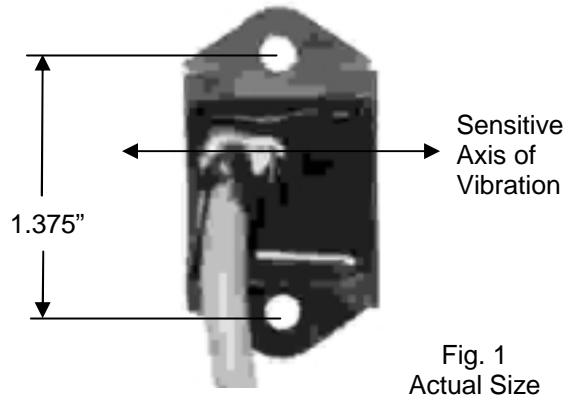
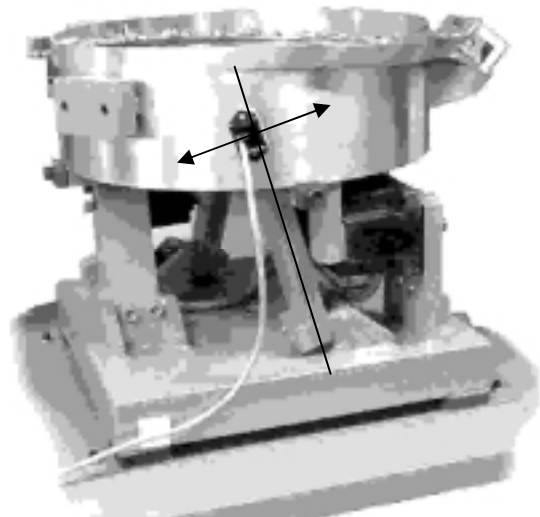

Fig. 1
Fig. 2 The arrow shows the direction of vibration which is at a right angle to the spring pack.
Figure 1 represents
feeder. The double-ended arrow in figure 1 shows the sensor's sensitive axis. Align the sensitive axis of the sensor in the same direction as the vibration (see figure 2). The sensor must be oriented correctly for proper operation.
- 6) Remove the vibration sensor from its protective packaging. Remove the liner from the adhesive backing. Avoid touching the tape. Align the sensor as shown in figures 1 and 2. Apply the vibration sensor to the prepared area of the feeder. Press the sensor very firmly onto the feeder surface for at least 10 seconds.
Use a cable tie and an adhesive-backed mount to attach the sensor cable to the side of the drive base. See Figure 2. Clean the mounting area before applying the adhesive-backed mount.